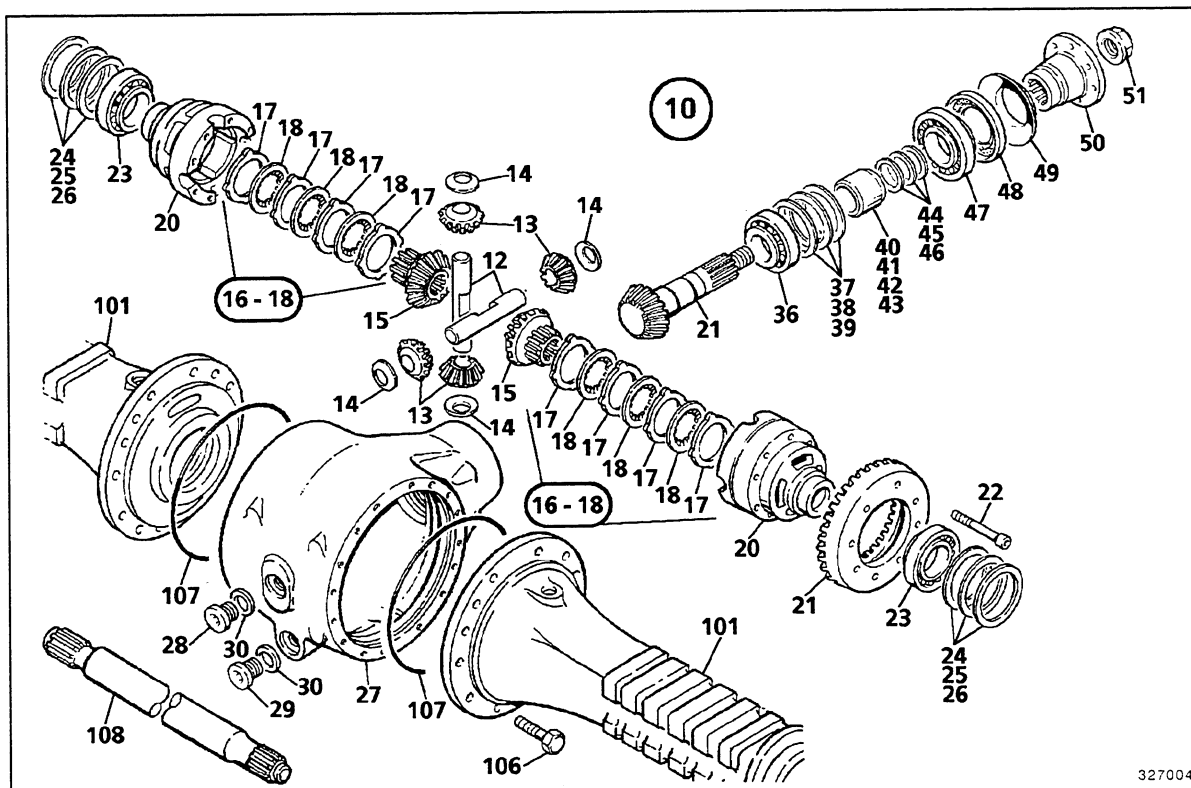

Fig. 4
- Mark axle housing (27, Fig. 4) and both axle tubes (101). Place axle in vertical position so that - seen in driving direction - the left-hand axle half is on top. At this position, ring gear (21) is on top. Refer to "Front Axle Drawing". Fix lower axle tube. For holding fixture, refer to "List of Special Tools" chapter.
- Slacken hex screws (106) and lift off axle tube (101). Hub and planetary gear set remain closed.
- Remove O-ring (107).
- Extract drive shaft (108).
- Pull drive shaft (108) out of lower axle tube.
- Arrest flange (50) with crank S27, slacken collar unit (51) and pull off flange (50).
- Lift shaft ring (48).
- Drive pinion shaft (21) into axle housing (27), catch released tapered roller bearing.
- Extract spacing washers (44 - 46), bush (40) and tapered roller bearing (36) from pinion shaft.